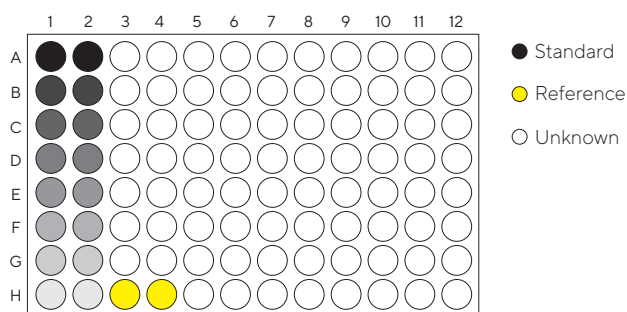

Figure 2: Example plate layout for a routine assay run in a 96-well microplate.
3. Transfer triplicates of the standards and the unknowns to a sample plate. It is recommended to organize samples in columns, from A–H. Fill at least one well with blank diluted matrix for reference subtraction during data analysis. An example plate map is shown in Figure 2.
3. Pipette standards, controls and samples into a black polypropylene microplate (see Figure 2 for sample plate layout).
6. Set up a Basic Quantitation assay according to the Octet® BLI Discovery Software User Guide. An example plate map is shown in Figure 2.